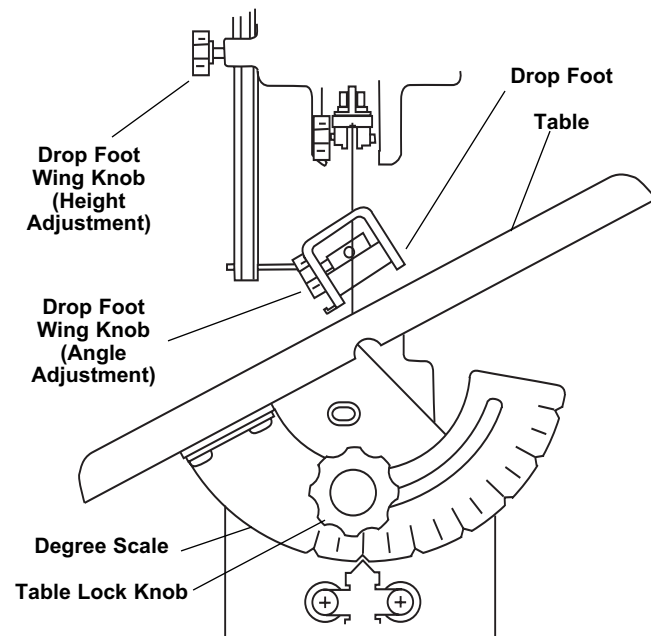

Figure 13. Adjusting Table for Horizontal or Bevel Cutting
4. When cutting with the table angled, adjust drop foot so it's parallel to the table. To adjust, loosen the wing knob, turn drop foot to correct angle, tighten wing knob (Figure 13).